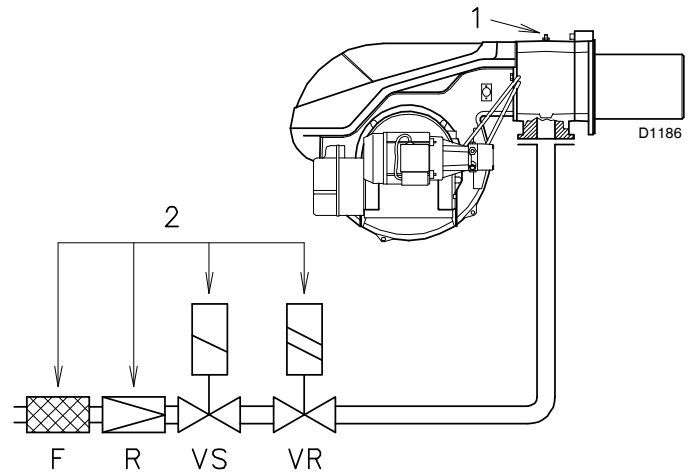

Fig. 25
Gas pressure measured at test point 1)(Fig. 25), with:
Pressure loss of gas train 2)(Fig. 25) with gas G20 includes:
- subtract the combustion chamber pressure from the gas pressure measured at test point 1)(Fig. 25).
- Gas pressure at test point 1)(Fig. 25) = 11.2 mbar
To calculate the required gas pressure at test point 1)(Fig. 25), set the output required from the burner in 2nd stage operation:
- Read off the pressure at test point 1)(Fig. 25) on the right in column 1.
pressure required at test point 1)(Fig. 25).